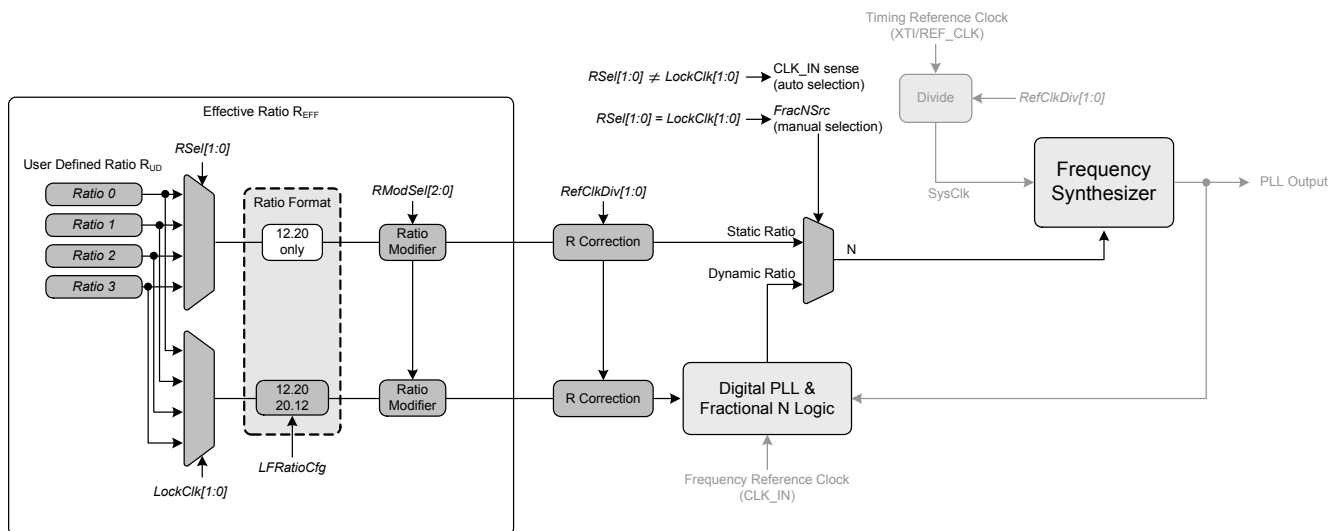

Figure 18. Ratio Feature Summary
To select between the static ratio based Frequency Synthesizer Mode and the dynamic ratio based Hybrid PLL Mode, the source for the fractional-N value for the Frequency Synthesizer must be changed. The Fractional-N value can either be sourced directly from the Effective Ratio (static ratio) or from the output of the Digital PLL (dynamic ratio) (see Figure 18 on page 22). The setting of this function can be made manual or automatically depending on the presence of CLK\_IN.
The  $R_{UD}$  is the user defined ratio for which up to four different values ( $Ratio_{0-3}$ ) can be stored in the register space. The  $RSel[1:0]$  or  $LockClk[1:0]$  bits then select the user defined ratio to be used (depending on if static or dynamic ratio mode is to be used). The resolution for the  $R_{UD}$  is selectable, for the dynamic ratio mode, by setting  $LFRatioCfg$ . R-Mod is applied if selected. The user defined ratio, and ratio modifier make up the effective ratio  $R_{EFF}$ , the final calculation used to determine the output to input clock ratio. The effective ratio is then corrected for the internal dividers. The frequency synthesizer's fractional-N source selection is made between the static ratio (in frequency synthesizer mode) or the dynamic ratio generated from the digital PLL (in Hybrid PLL mode) by either the  $FracNSrc$  bit for manual mode or the presence of  $CLK\_IN$  in automatic mode. The conceptual diagram in Figure 18 summarizes the features involved in the calculation of the ratio values used to generate the fractional-N value which controls the Frequency Synthesizer.
- Changes made to the registers which affect the Fraction-N value that is used by the Frequency Synthesizer. This includes all the bits shown in Figure 18 on page 22.